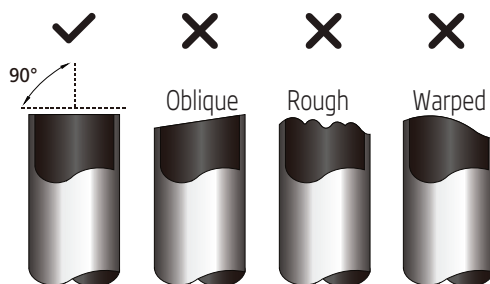

Fig. 7.1
3. Make sure that the pipe is cut at a perfect 90° angle. Refer to Fig. 7.1 for bad cut examples.